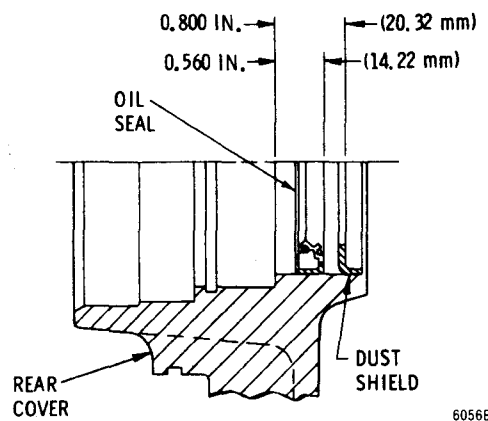

Fig. 6-27. Oil and dust shield installation (TTB with converter-driven PTO)
(1) Pack the inside diameter groove of oil seal 39 with high temperature grease, MIL-G-3545A or equivalent. Install oil seal 39 and dust shield 40 into rear cover 38 in the positions shown in figure 6-27. Or, apply a nonhardening sealer and install plug 44 (foldout 15,B).